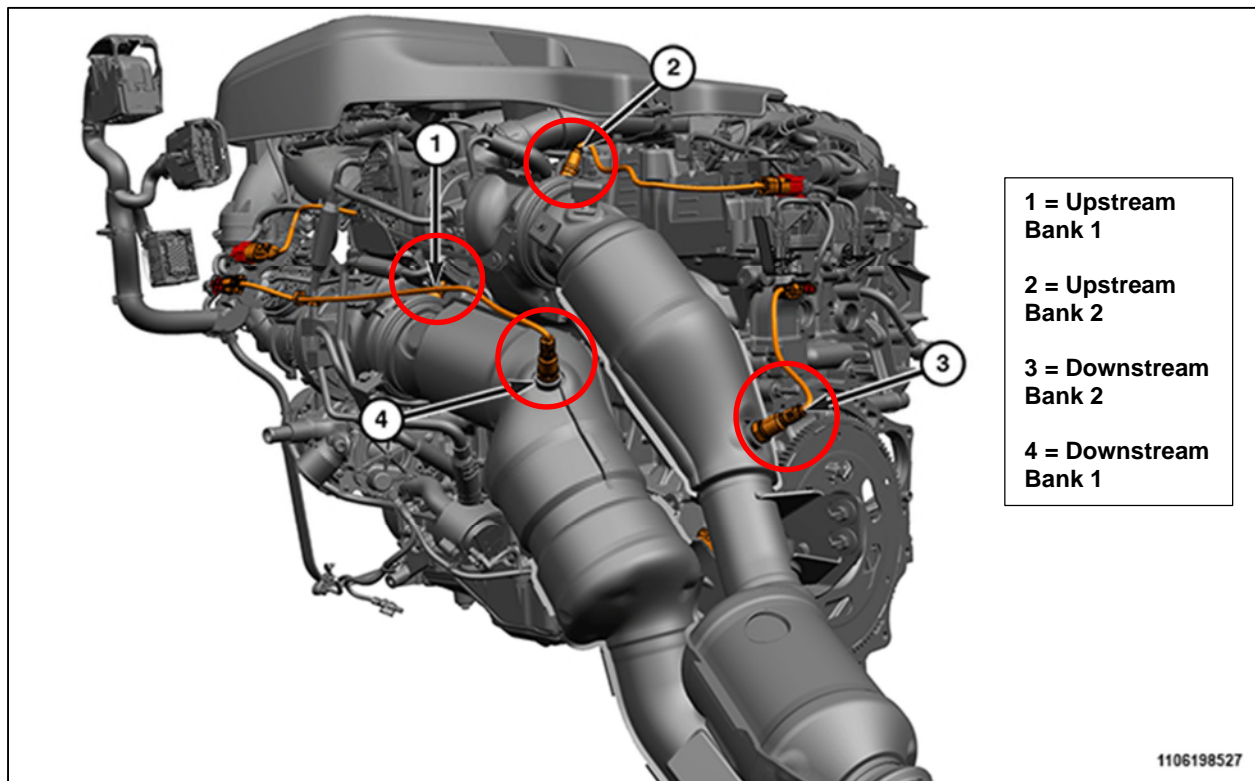

Fig. 1 O2 Sensor Locations
- c) If codes return, remove **downstream** O2 sensor of associated misfire bank. (Fig. 1 shows location of upstream and downstream o2 sensors.)
- i) If no damage is found in catalytic converter, swap **upstream** O2 sensors (**Fig. 1 – Sensors labeled 1 & 2**). Clear codes. Start vehicle. Record Vehicle Scan Report. If misfire DTCs return but switch banks, replace the **upstream** O2 sensor that was originally in the bank associated with the original misfire DTC in accordance with Service Library procedure. Suggest submitting DIDI with evidence of diagnostic checks to confirm warranty claim.